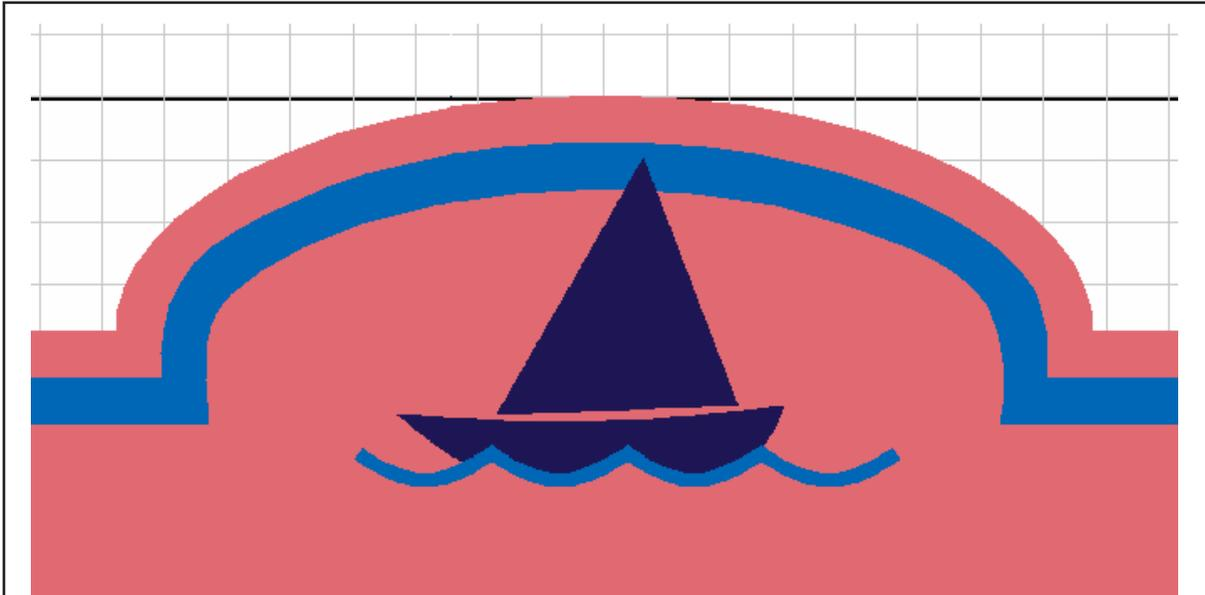

Fig. 86 - The traced sailboat artwork can now be positioned with the marina sign artwork.
3. Size the sailboat appropriately, and move it to the top center of the sign. The result should look something like Fig. 86